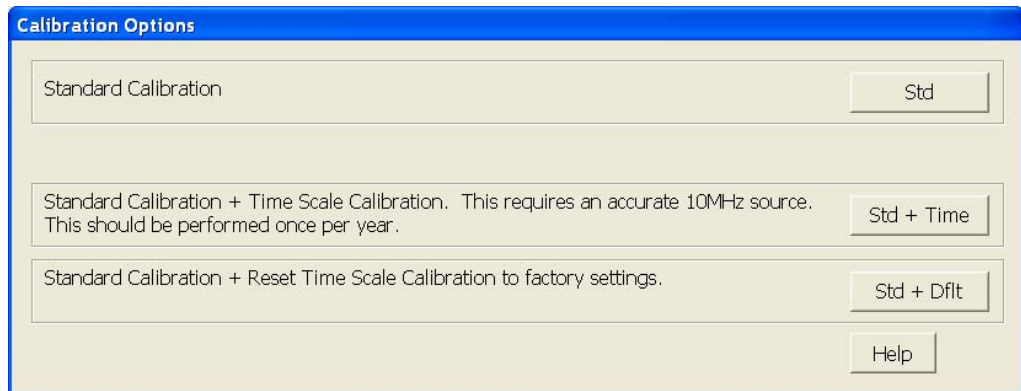

Figure 56 Time Scale Calibration Dialog box
- d During the calibration of channel 1, if you are prompted to perform a Time Scale Calibration, as shown in Figure 56 below.